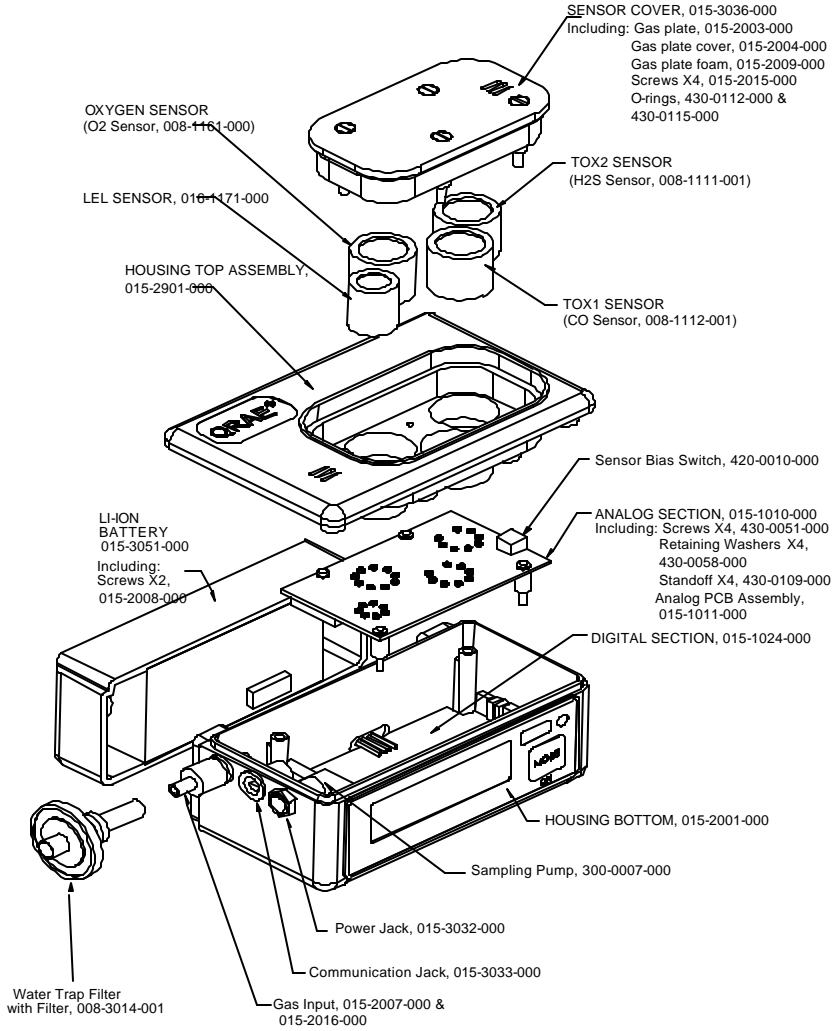

Figure 29. Main Components of Q-RAE PLUS
Figure 29 shows the main components of the Q-RAE PLUS.
Refer to Figure 29 for assembly and part number information when ordering new components.
4. When changing the sensor, detach the battery first and then open the sensor cover only, do not open the housing top (refer to Figure 29).
5. The four screws that tighten the housing top are under the unit (refer to Figure 29)